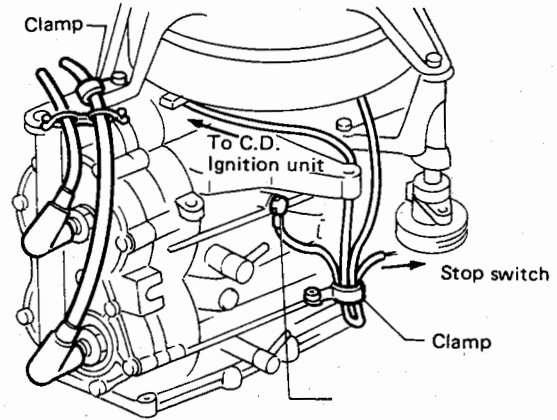

Fig.9.9
3. Fix the wiring with the clamp associated with the crankcase as shown in Fig.9.9. At this time, it is required that the coil plate lead wire has sufficient length to allow free movement of the coil plate.